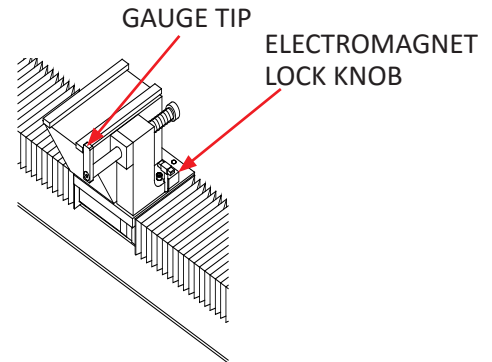
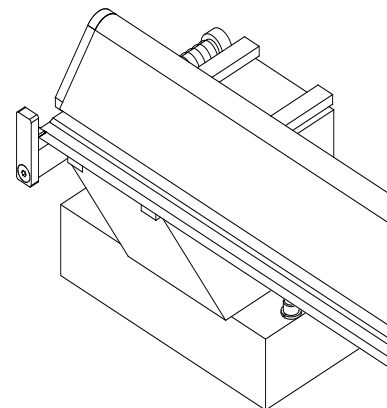
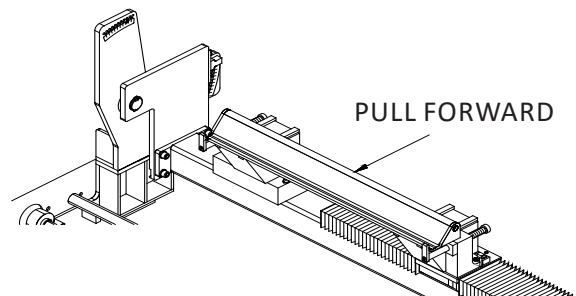

FIG. 33
FIG. 35
FIG. 36
1. Pull both bedknife alignment gauges forward and rotate to lock into position. Loosen the knob on the right side electromagnet assembly. See FIG. 33. Set the bedknife / bedbar assembly to be ground on the electromagnets. Move the right side electromagnet assembly until the alignment gauge tips are at both ends of the bedknife. See FIG. 36. Tighten the right side electromagnet lock knob enough to secure the electromagnet assembly.
3. Position the bedknife so the unworn tips on a used bedknife or the ends of a new bedknife are against the alignment gauge tips. See FIG. 35. Pull the bedknife forward firmly against the gauge tip and then turn the electromagnet switch to ON. See FIG. 36.